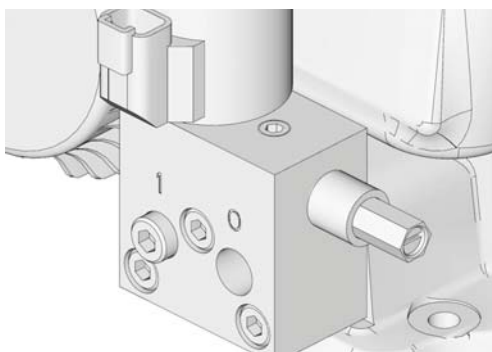

FIG. 2
3. Disconnect end of cable (a) from solenoid control device (FIG. 2).